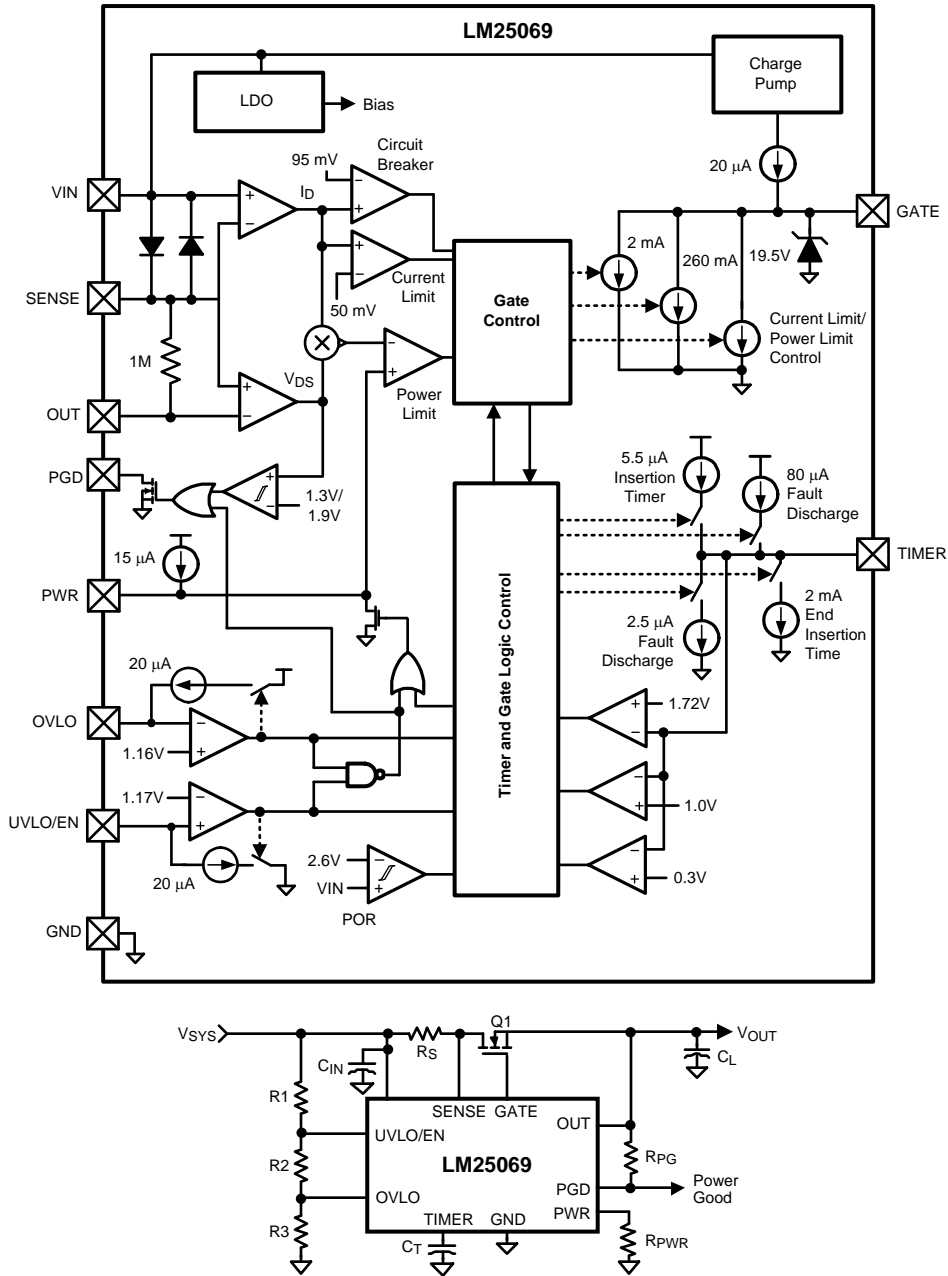
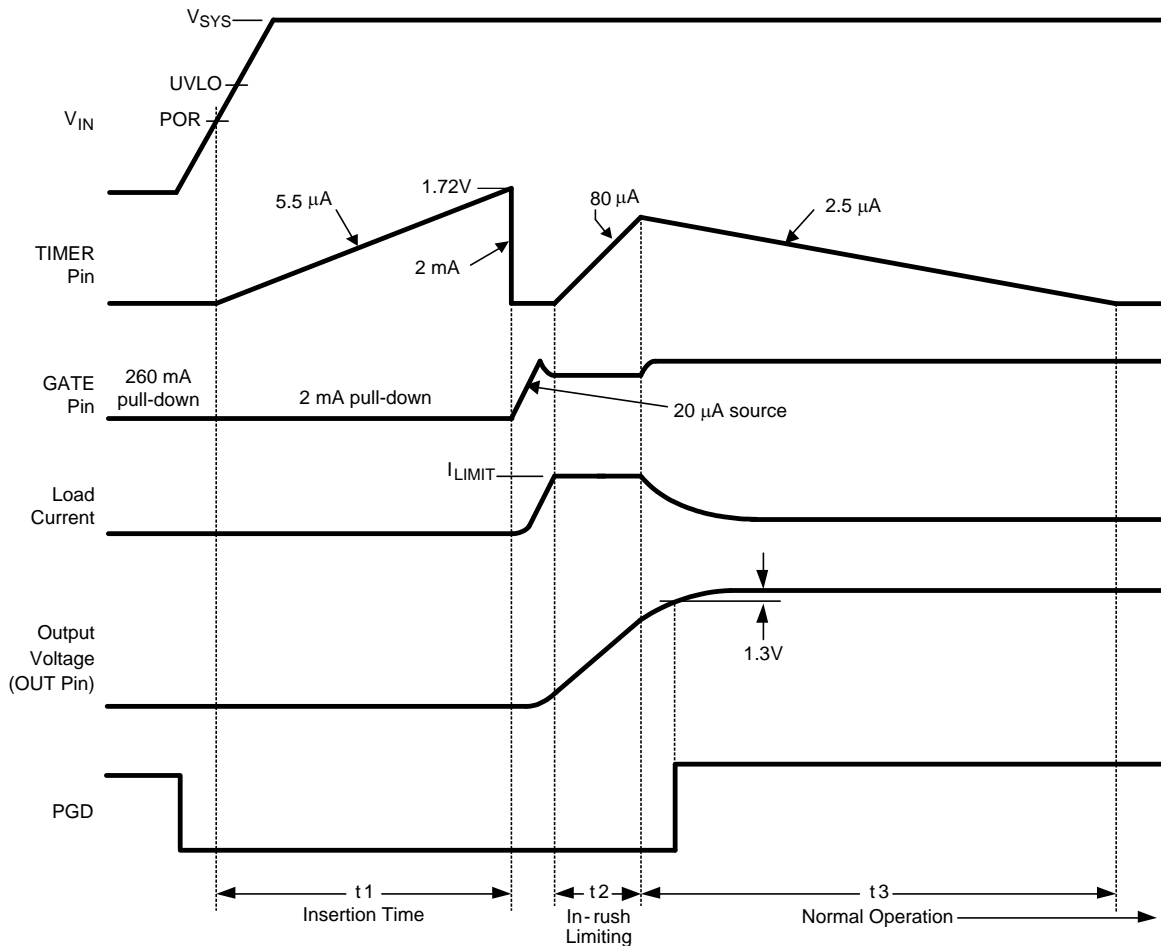

Figure 21. Basic Application Circuit
Figure 23. Power Up Sequence (Current Limit only)
The VIN operating range of the LM25069 is +2.9V to +17V, with a transient capability to 20V. Referring to the Block Diagram and Figure 21 and Figure 23, as the voltage at VIN initially increases, the external N-channel MOSFET (Q1) is held off by an internal 260 mA pull-down current at the GATE pin. The strong pull-down current at the GATE pin prevents an inadvertent turn-on as the MOSFET's gate-to-drain (Miller) capacitance is charged. Additionally, the TIMER pin is initially held at ground. When the VIN voltage reaches the POR threshold the insertion time begins. During the insertion time, the capacitor at the TIMER pin (C_T) is charged by a 5.5 μ A current source, and Q1 is held off by a 2 mA pull-down current at the GATE pin regardless of the VIN voltage. The insertion time delay allows ringing and transients at VIN to settle before Q1 is enabled. The insertion time ends when the TIMER pin voltage reaches 1.72V. C_T is then quickly discharged by an internal 2 mA pull-down current. The GATE pin then switches on Q1 when V_{SYS} exceeds the UVLO threshold. If V_{SYS} is above the UVLO threshold at the end of the insertion time, Q1 switches on at that time. The GATE pin charge pump sources 20 μ A to charge Q1's gate capacitance. The maximum voltage at the GATE pin is limited by an internal 19.5V zener diode.
As the voltage at the OUT pin increases, the LM25069 monitors the drain current and power dissipation of MOSFET Q1. In-rush current limiting and/or power limiting circuits actively control the current delivered to the load. During the in-rush limiting interval (t_2 in Figure 23) an internal 80 μ A fault timer current source charges C_T . If Q1's power dissipation and the input current reduce below their respective limiting thresholds before the TIMER pin reaches 1.72V the 80 μ A current source is switched off, and C_T is discharged by the internal 2.5 μ A current sink (t_3 in Figure 23). The in-rush limiting interval is complete when the voltage at the OUT pin increases to within 1.3V of the input voltage (V_{SYS}), and the PGD pin switches high.
A charge pump provides the voltage at the GATE pin to enhance the N-Channel MOSFET's gate. During normal operating conditions (t_3 in Figure 23) the gate of Q1 is held charged by an internal 20 μA current source. The voltage at the GATE pin (with respect to ground) is limited by an internal 19.5V zener diode. See the graph GATE Pin voltage. Since the gate-to-source voltage applied to Q1 could be as high as 19.5V during various conditions, a zener diode with the appropriate voltage rating must be added between the GATE and OUT pins if the maximum V_{GS} rating of the selected MOSFET is less than 19.5V. The external zener diode must have a forward current rating of at least 260 mA.
During the insertion time (t_1 in Figure 23) the GATE pin is held low by a 2 mA pull-down current. This maintains Q1 in the off-state until the end of t_1 , regardless of the voltage at V_{IN} or UVLO.
Following the insertion time, during t_2 in Figure 23, the gate voltage of Q1 is modulated to keep the current or power dissipation level from exceeding the programmed levels. While in the current or power limiting mode the TIMER pin capacitor is charging. If the current and power limiting cease before the TIMER pin reaches 1.72V the TIMER pin capacitor then discharges, and the circuit enters normal operation.
The series pass MOSFET (Q1) is enabled when the input supply voltage (V_{SYS}) is within the operating range defined by the programmable under-voltage lockout (UVLO) and over-voltage lock-out (OVLO) levels. Typically the UVLO level at V_{SYS} is set with a resistor divider (R1-R3) as shown in Figure 21. Referring to the Block Diagram when V_{SYS} is below the UVLO level, the internal 20 μ A current source at UVLO is enabled, the current source at OVLO is off, and Q1 is held off by the 2 mA pull-down current at the GATE pin. As V_{SYS} is increased, raising the voltage at UVLO above its threshold the 20 μ A current source at UVLO is switched off, increasing the voltage at UVLO, providing hysteresis for this threshold. With the UVLO pin above its threshold, Q1 is switched on by the 20 μ A current source at the GATE pin if the insertion time delay has expired. See the Applications Section for a procedure to calculate the values of the threshold setting resistors (R1-R3). The minimum possible UVLO level at V_{SYS} can be set by connecting the UVLO pin to VIN. In this case Q1 is enabled after the insertion time.
Application Information (Refer to Figure 21)
A) Insertion Delay - Upon applying the system voltage (V_{SYS}) to the circuit, the external MOSFET (Q1) is held off during the insertion time (t₁ in Figure 23) to allow ringing and transients at V_{SYS} to settle. Since each backplane's response to a circuit card plug-in is unique, the worst case settling time must be determined for each application. The insertion time starts when VIN reaches the POR threshold, at which time the internal 5.5 μA current source charges C_T from 0V to 1.72V. The required capacitor value is calculated from: